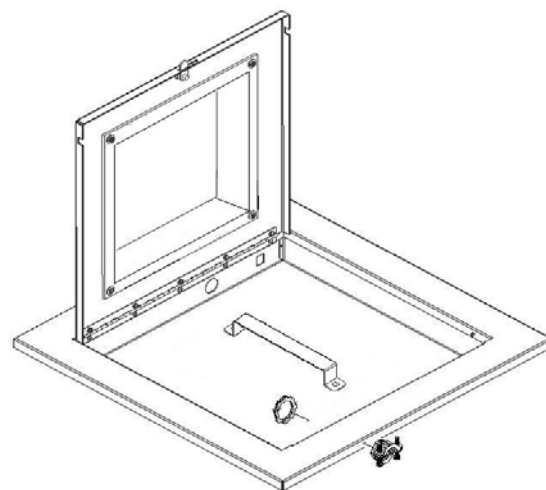

Figure 2 – Installation of cable clamp(s)
Step 2 – Install the cable clamps. Remove the hole cover(s) from the inside of the enclosure. Insert the cable clamp through the hole with the nut installed from the inside of the enclosure. If using Power Over Ethernet (P.O.E.) use 1 cable clamp. If P.O.E. is not being used, install both cable clamps and bring power and Ethernet into the enclosure through separate clamps (Ref. *Figure 2*).